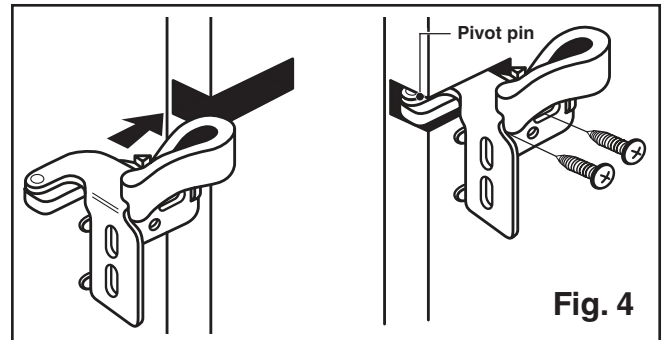

Fig. 4
5. Attach hinges to door. (Fig. 4)